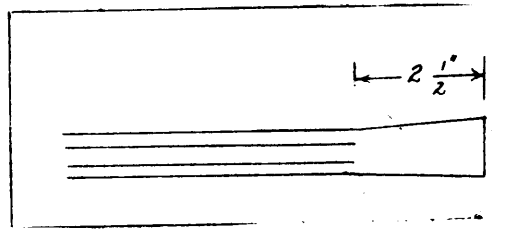

Figure 2.
3. Shape the other end to a chisel edge  $2\frac{1}{2}"$  long. Figure 2.